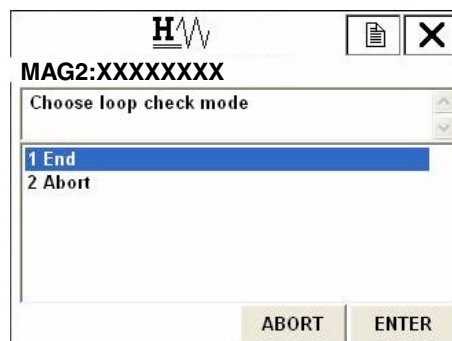
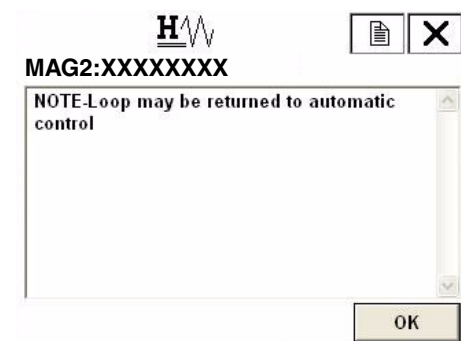

Figure 133.
Figure 134.
3. During the loop check, Figure 133 is displayed. If the loop check is finished, move the arrow key up or down and select “1 End” to select other analog output value for the loop check. If you finish the loop check, move the arrow key up or down and select “2 Abort” to abort. Then Figure 134 is displayed.
4. Once the display as shown Figure 134 appears, press “OK” to abort. Then Figure 135 is displayed. Press “OK” and then the screen returns to the loop test menu as shown in Figure 136.